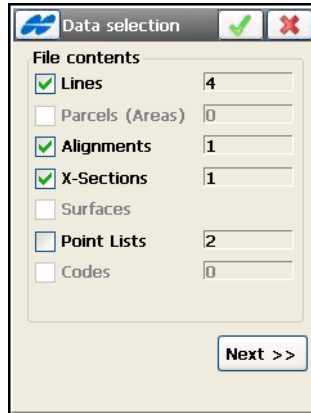

Figure 5-18. Import From LandXML
1. On the **Data selection** screen, select specific data type from the appropriate file (Figure 5-18 on page 5-14).